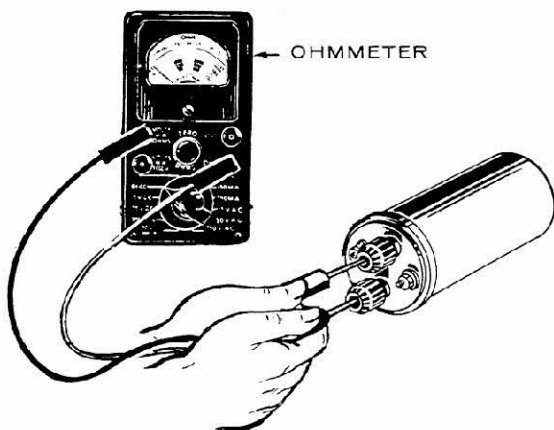

FIGURE 14. TESTING IGNITION COIL
3. Change resistance setting on ohmmeter. Place ohmmeter leads inside of spark plug cable holes (Figure 14). Secondary resistance should read: